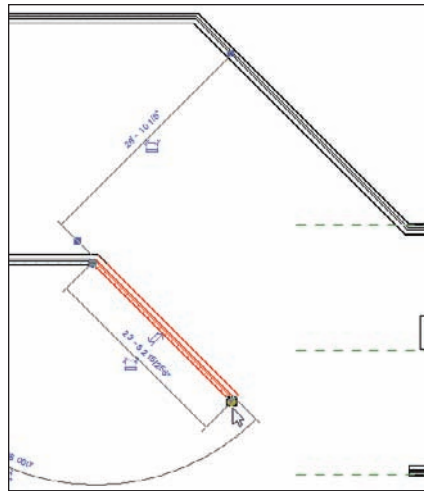

FIGURE 2.14 By selecting a wall, you can make adjustments, such as stretching the ends, by picking the blue grips.
1. Pick (left-click) the bottom diagonal wall. You will see a number of blue icons and dimensions appear, as shown in Figure 2.14. Each of these icons plays a role in the adjustment of the wall.